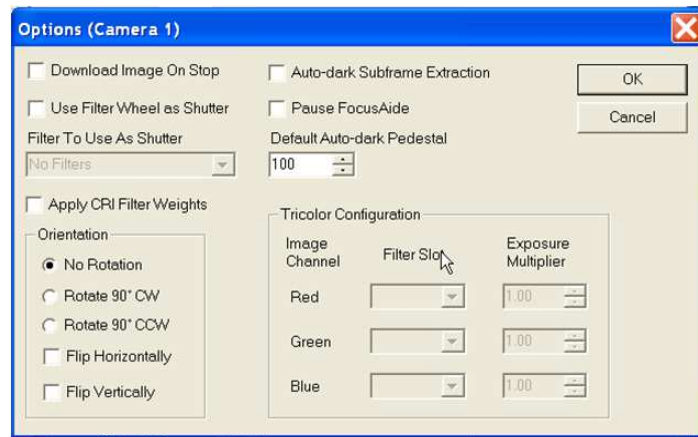

Figure 6.4: required camera1 (pinhole monitoring camera) options.
- Check the options of camera1 and make sure they correspond to what is seen in Figure 6.4. Both Flips should be unchecked.